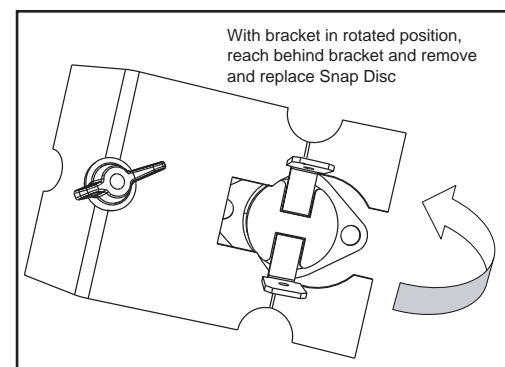

Figure 21.5
- When bracket is loose enough, rotate the bracket counterclockwise and away from feed tube. **Figure 21.5.**